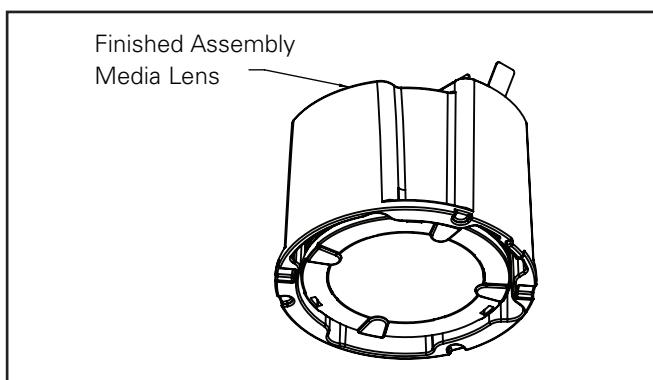

Figure 21
7. To install optic and media/film assembly to module follow steps in "Optic Assembly Replacement/ Installation "(Figure 21 & 23)